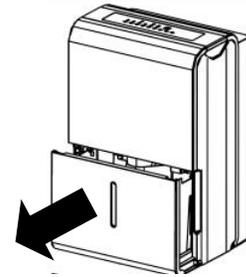

Fig. 3
3. Grip the left and right handles of the drain bucket securely and carefully pull out the drain bucket. Do not put the drain bucket on the floor because the bottom of the bucket is not even which may cause the water to spill. See Fig.3 and Fig. 4.